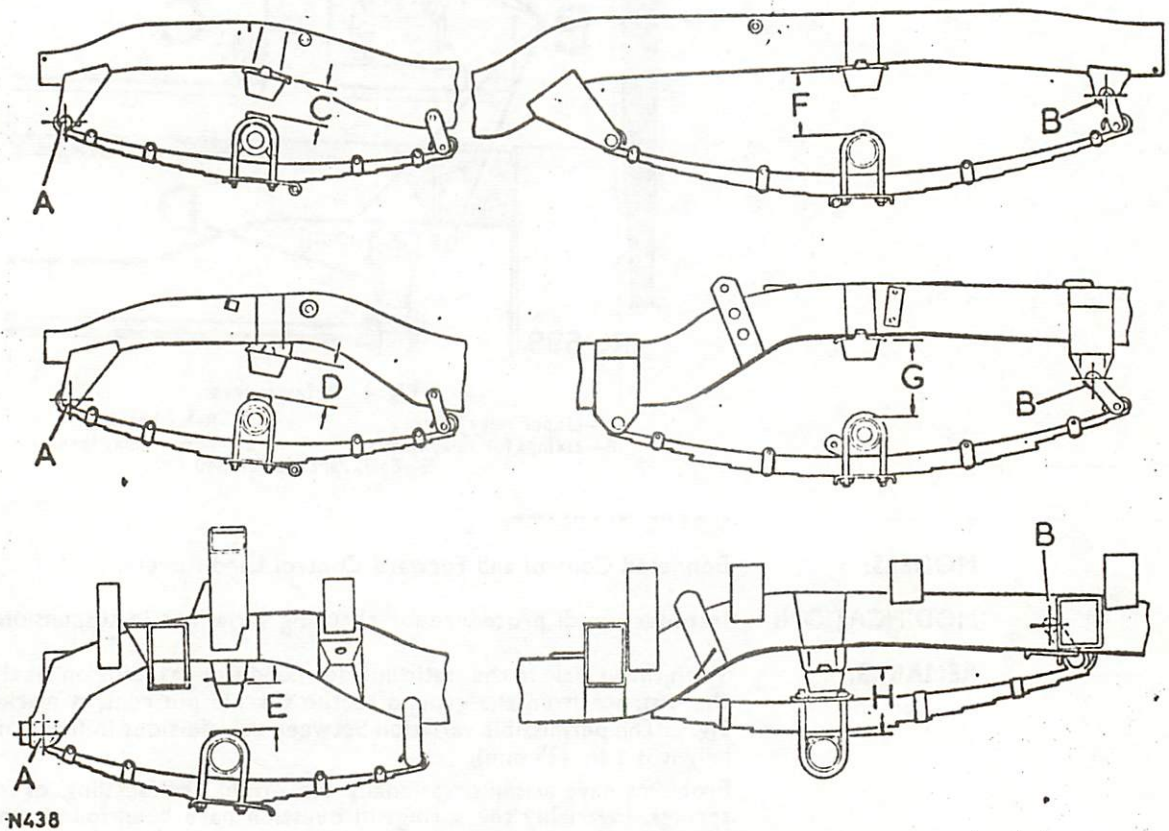

Fig. 2. Presetting position of road springs to chassis frame
With the vehicle in the static unladen condition standing on level ground, measure the distance from the ground to the shackle pin centres marked 'A' and 'B' at Fig. 2. The permissible variation between vehicle sides in front or rear suspension height is 1 in. (25 mm).
4. Replace the shackle pins, and on achieving the spring position detailed in Fig. 2, tighten first the shackle pin and then the lock nut to 70 lbs ft (9,6 mkg).